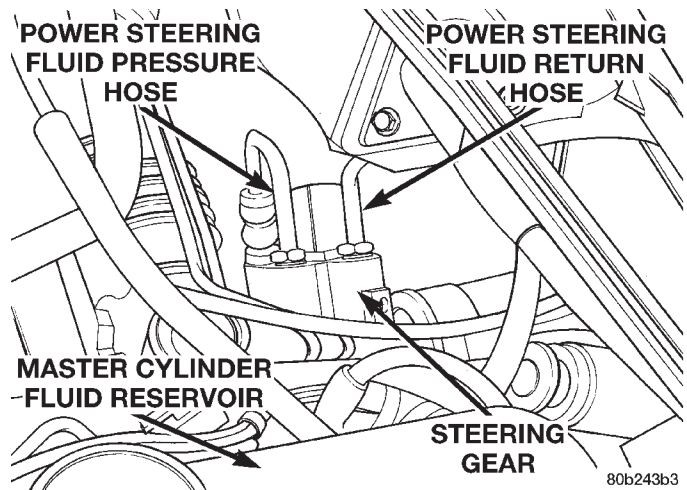

Fig. 3 Power Steering Hoses At Steering Gear
- (2) Unclip the connector from the gear end cap.
- (3) Remove the power steering pressure hose (Fig. 3) from the power steering gear.
- (4) Remove the power steering return hose (Fig. 3) from the power steering gear.
(4) Reconnect the power steering hoses at the gear (Fig. 3). Tighten both hose tube nuts to 31 N·m (275 in lbs.).
(5) Route the solenoid control valve wire harness over the top of the gear and clip it into place on the gear end cap.
(6) Connect the wiring harness connector. **Be sure the wiring harness connector seal is in good condition before installing the connector in the control module.**
(7) Road test vehicle, referring to the test indicated in the Body Diagnostic Manual, to confirm correct operation of the variable-assist speed-proportional power steering gear.